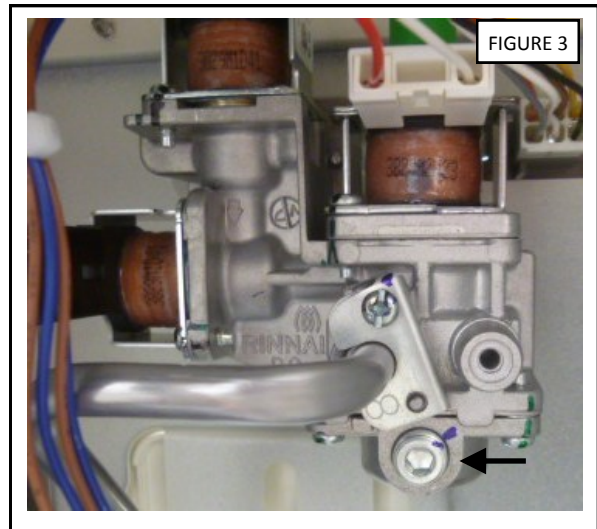

FIGURE 3
9. Remove the test port plug on the gas control valve and connect a manometer using a 1/8" test connection to adjust the pressure settings. (FIGURE 3)
18. Turn off gas supply. Remove manometer and reinstall test port plug. (FIGURE 3)